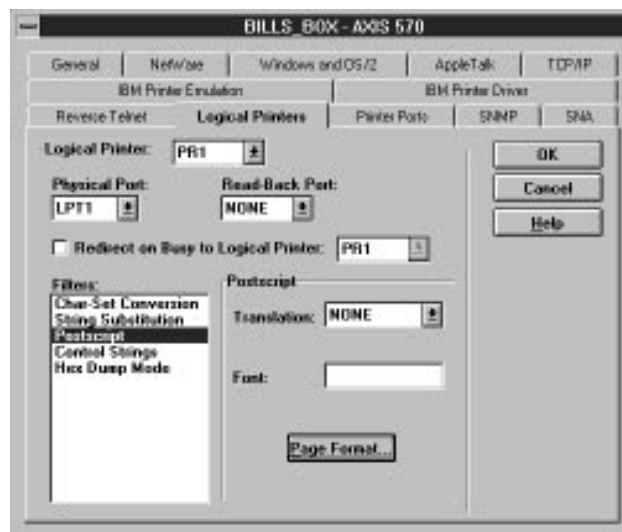

Figure 7-3 AXIS NetPilot Logical Printer Property Page
This parameter specifies which port logical printer PR1 is attached to. PR2 through PR8 ports are specified by parameters **PR2\_OUT** to **PR8\_OUT**. The default port assignments are shown in the table above. Refer to Figure 7-3 to see how to set this parameter using NetPilot.
*Example:* These parameters can be setup using the NetPilot option '*Redirect on Busy to Logical Printer:*' on the Logical Printers Property Page (see Figure 7-3 on page 101). Alternatively you can edit the *config* file as shown in the example below. In this example the PR1 print jobs are redirected to PR3 when the printer assigned to PR1 is busy:
If you are using AXIS NetPilot to setup these parameters the COM1 printer feedback delay setting is found on the Printer Port Property Page (see Figure 7-5 on page 105), and the Read-back port settings are on the Logical Printer Property Page (see Figure 7-3 on page 101).
The character set conversion function is individually configurable for each logical printer (see Figure 7-3 on page 101):